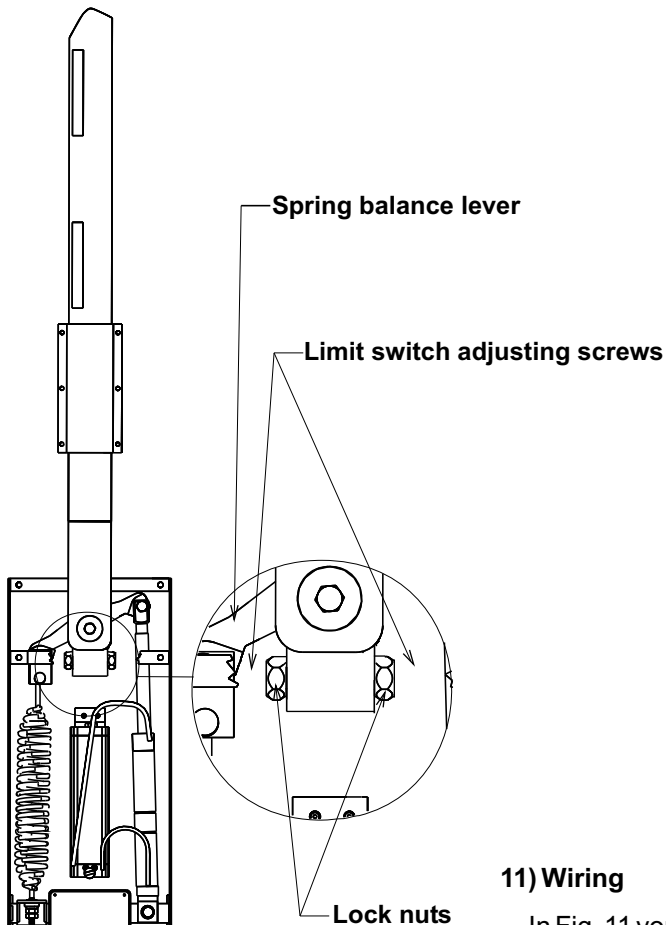

Fig. 10
- Release the end stroke screws unscrewing the lock nuts on the beam balance assembly (Fig.10).
- Screw or unscrew the end stroke screws so that the beam stays perfectly vertical in opening and perfectly horizontal in closing (Fig.10).